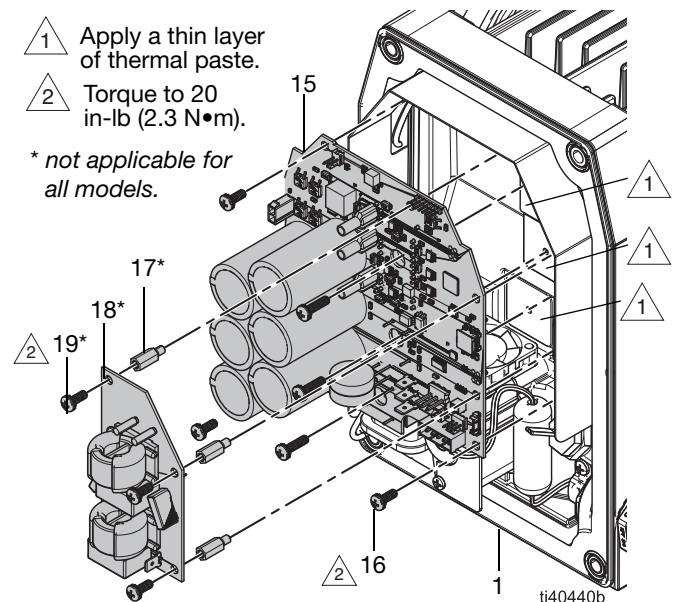

FIG. 16: Control Board and Filter Board
2. If needed, apply a thin layer of thermal paste where indicated in FIG. 16.
3. Hold wires away from the stator housing (1) and insert the control board (15) into the stator housing.
4. Hold the control board (15) in place. At the same time, install the control board fasteners (16). Torque to 20 in-lb (2.3 N•m).
5. If applicable, install spacers (17), filter board (18), and fasteners (19). Securely tighten the fasteners (19).
6. If applicable, connect the filter board (18) power brown cable to L1 and blue cable to L2 on the control board. See **Electrical Schematics**, page 44.
7. Connect all wires to the control board (15) and filter board (18, if applicable). See **Electrical Schematics**, page 44.